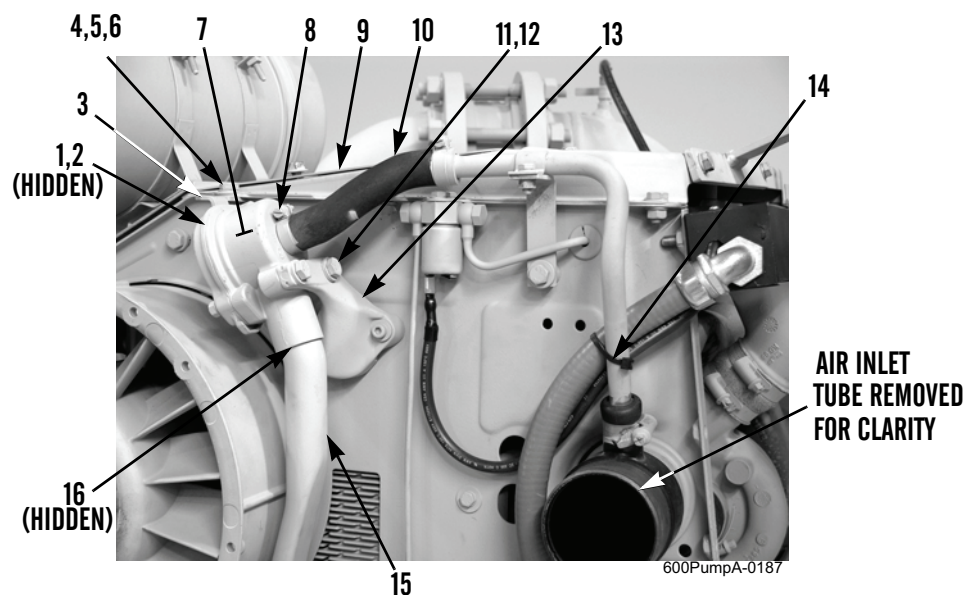

Figure 5. Crankcase Breather and Lines.
- Install bracket (Figure 5, Item 3) on breather valve (Figure 5, Item 7) with washer (Figure 5, Item 2) and nut (Figure 5, Item 1).
- Install breather valve (Figure 5, Item 7) on bracket (Figure 5, Item 13) with two washers (Figure 5, Item 12) and cap-screws (Figure 5, Item 11).
- Install bracket (Figure 5, Item 3) to upper cooling air guide plate (Figure 5, Item 9) with bolt (Figure 5, Item 6), two washers (Figure 5, Item 5), and nut (Figure 5, Item 4).
- Install tube (Figure 5, Item 10) on breather valve (Figure 5, Item 7) and fully tighten clamp (Figure 5, Item 8).